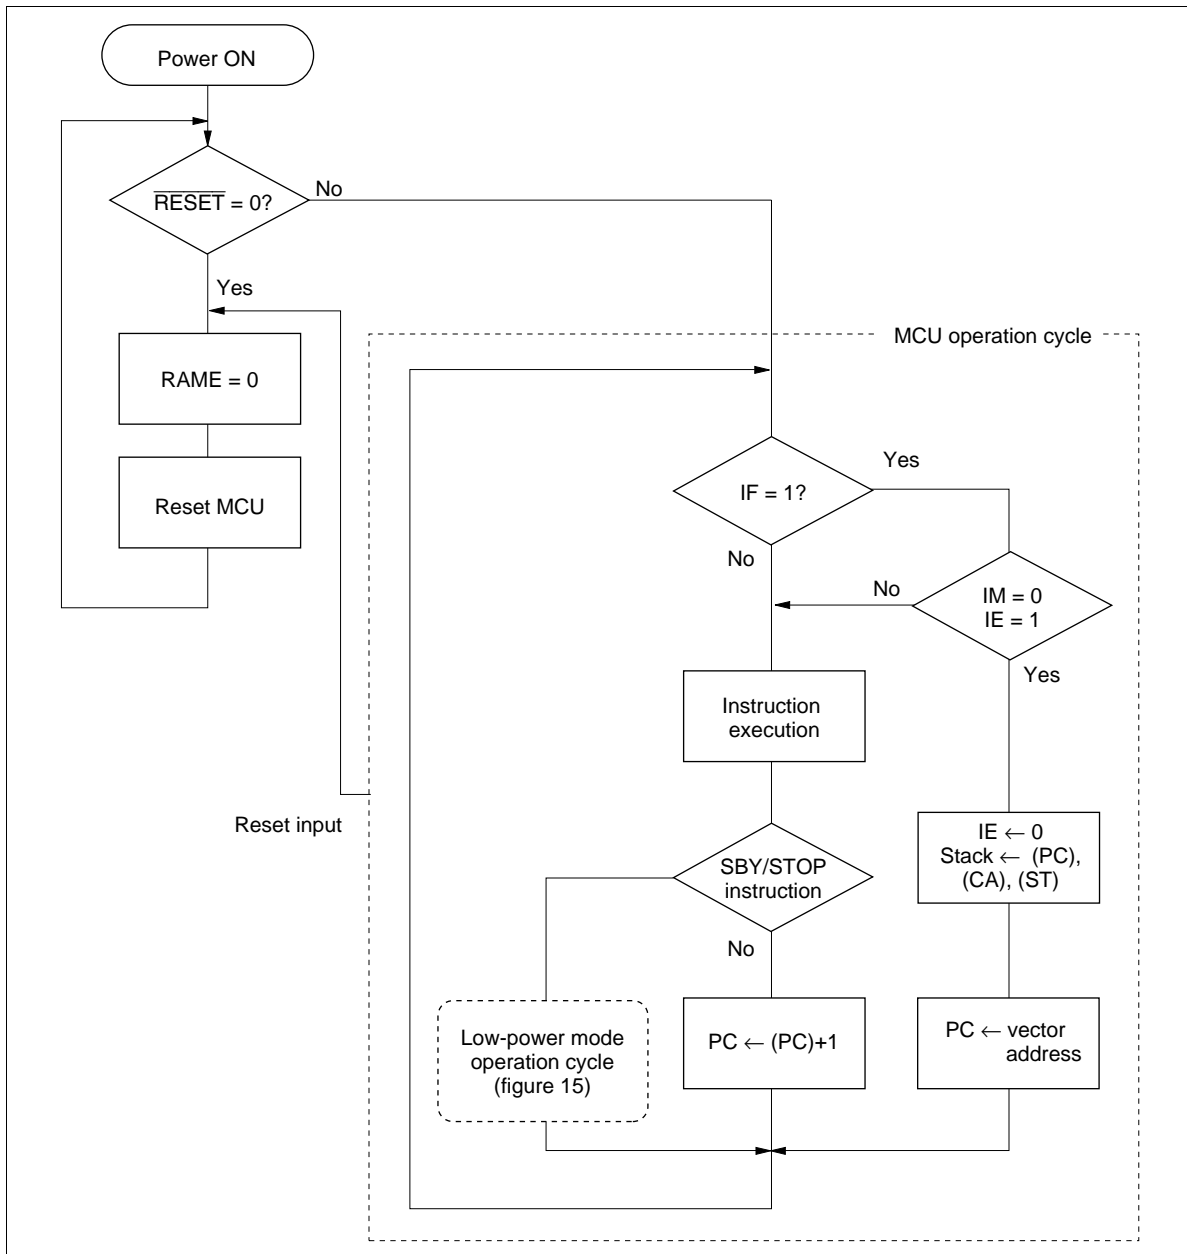

Figure 13 MCU Operating Sequence (Power ON)
**MCU Operation Sequence:** The MCU operates in the sequence shown in figure 13 and figure 14. The low-power mode operation sequence is shown in figure 14. With the IE flag cleared and an interrupt flag set together with its interrupt mask cleared, if a STOP/SBY instruction is executed, the instruction is cancelled (regarded as an NOP) and the following instruction is executed. Before executing a STOP/SBY instruction, make sure all interrupt flags are cleared or all interrupts are masked.